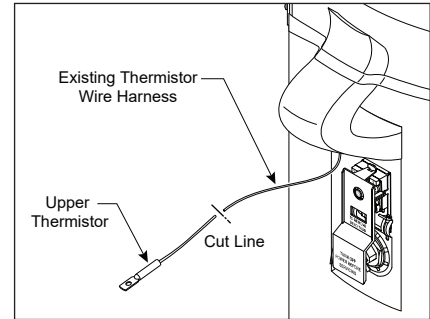

Figure 90 - Cut Existing Thermistor (Upper) Wire
- 6 Use wire cutters to cut the thermistor wire as shown in Figure 90. Do not strip the insulation from the end of the wire.